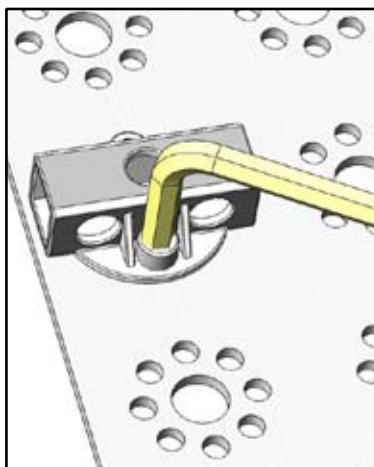

Figure G3
**Attaching the Hard-Point Connectors** – These can be attached to the TETRIX structural elements with SHCS screws and kep nuts (Figure G3).